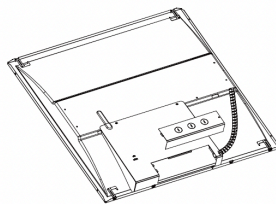

Fig. 2
2. Connect power cables to driver box (Fig. 2)